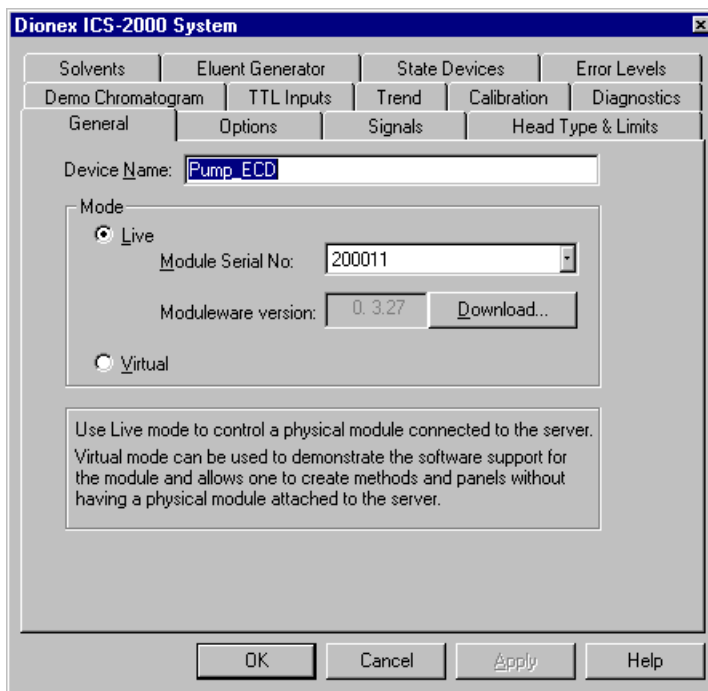

Figure B-16. ICS-2000 System Properties
3. The ICS-2000 System dialog box opens (see Figure B-16). The **General** page shows the Device Name (**Pump_ECD**), the Mode (**Live**), and the Module Serial No.